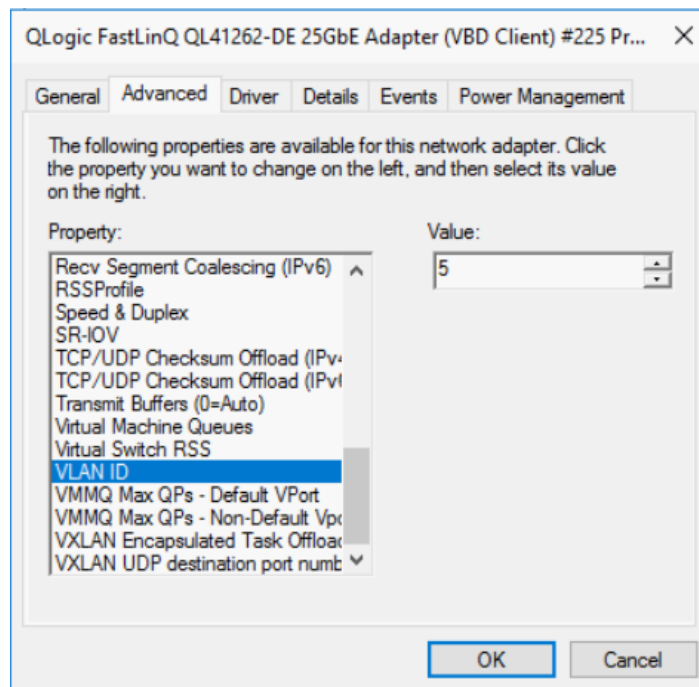

Figure 15-10. Advanced Properties: Setting VLAN ID
- b. On the adapter properties' Advanced page (Figure 15-10) under **Property**, select **VLAN ID**, and then set the value.